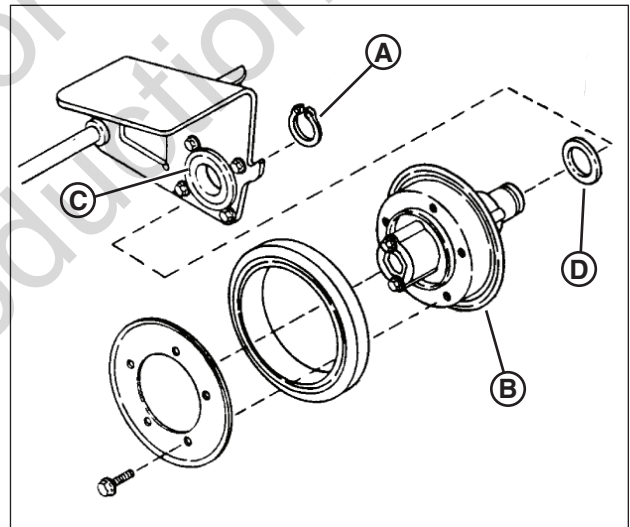

Figure 32: Replacing the driven disc bearing
2. Remove the snap ring (A, Figure 32) that secures the driven disc hub (B) to the thrust plate.
3. Slide the driven disc hub out of the bearing (C).